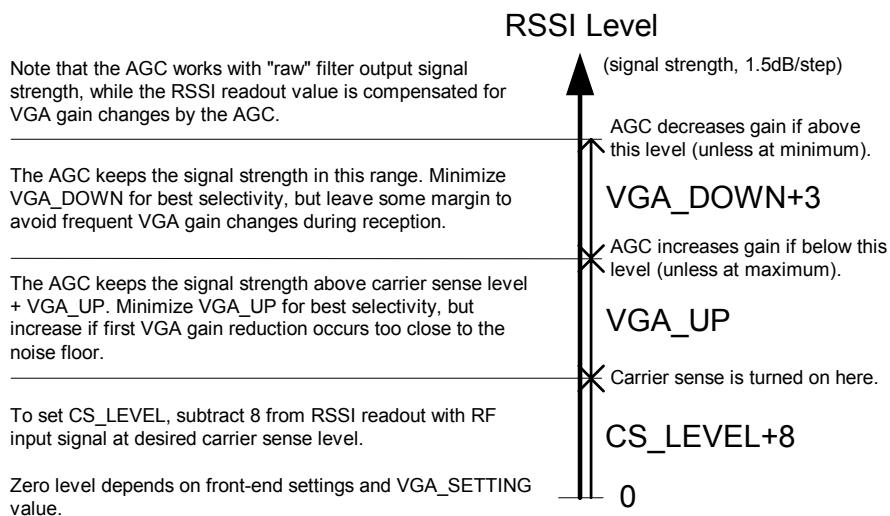

Figure 18. Relationship between RSSI, carrier sense level, and AGC settings *CS_LEVEL*, *VGA_UP* and *VGA_DOWN*
A digital RSSI is used to measure the signal strength after the ADC. The *CS_LEVEL[4:0]* in the *VGA4* register is used to set the nominal operating point of the gain control (and also the carrier sense level). Further explanation can be found in Figure 18.
5. If desired, adjust the *VGA_UP* and *VGA_DOWN* settings according to the explanation in Figure 18.
CS_LEVEL[4:0] must be changed accordingly to maintain the same absolute carrier sense threshold. See Figure 18 for an explanation of the relationship between RSSI, AGC and carrier sense settings.